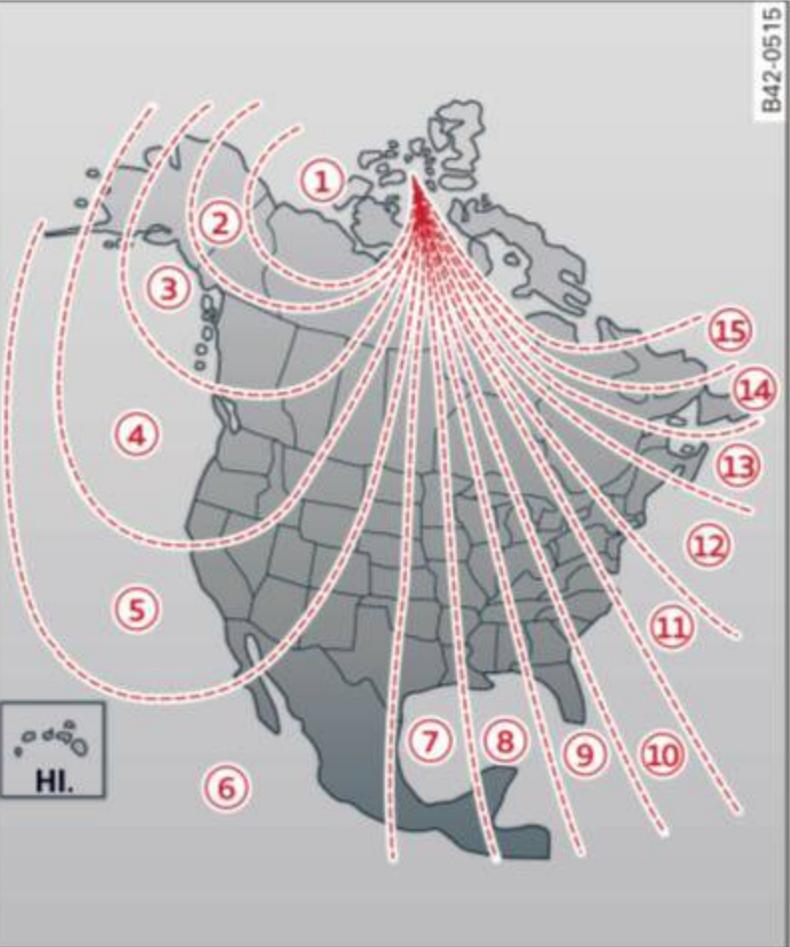

Fig. 57 North America: magnetic deflection zone boundaries
- ▶ Press and hold the button **A** ⇒ *fig. 57* until the number of the magnetic zone appears in the rearview mirror.